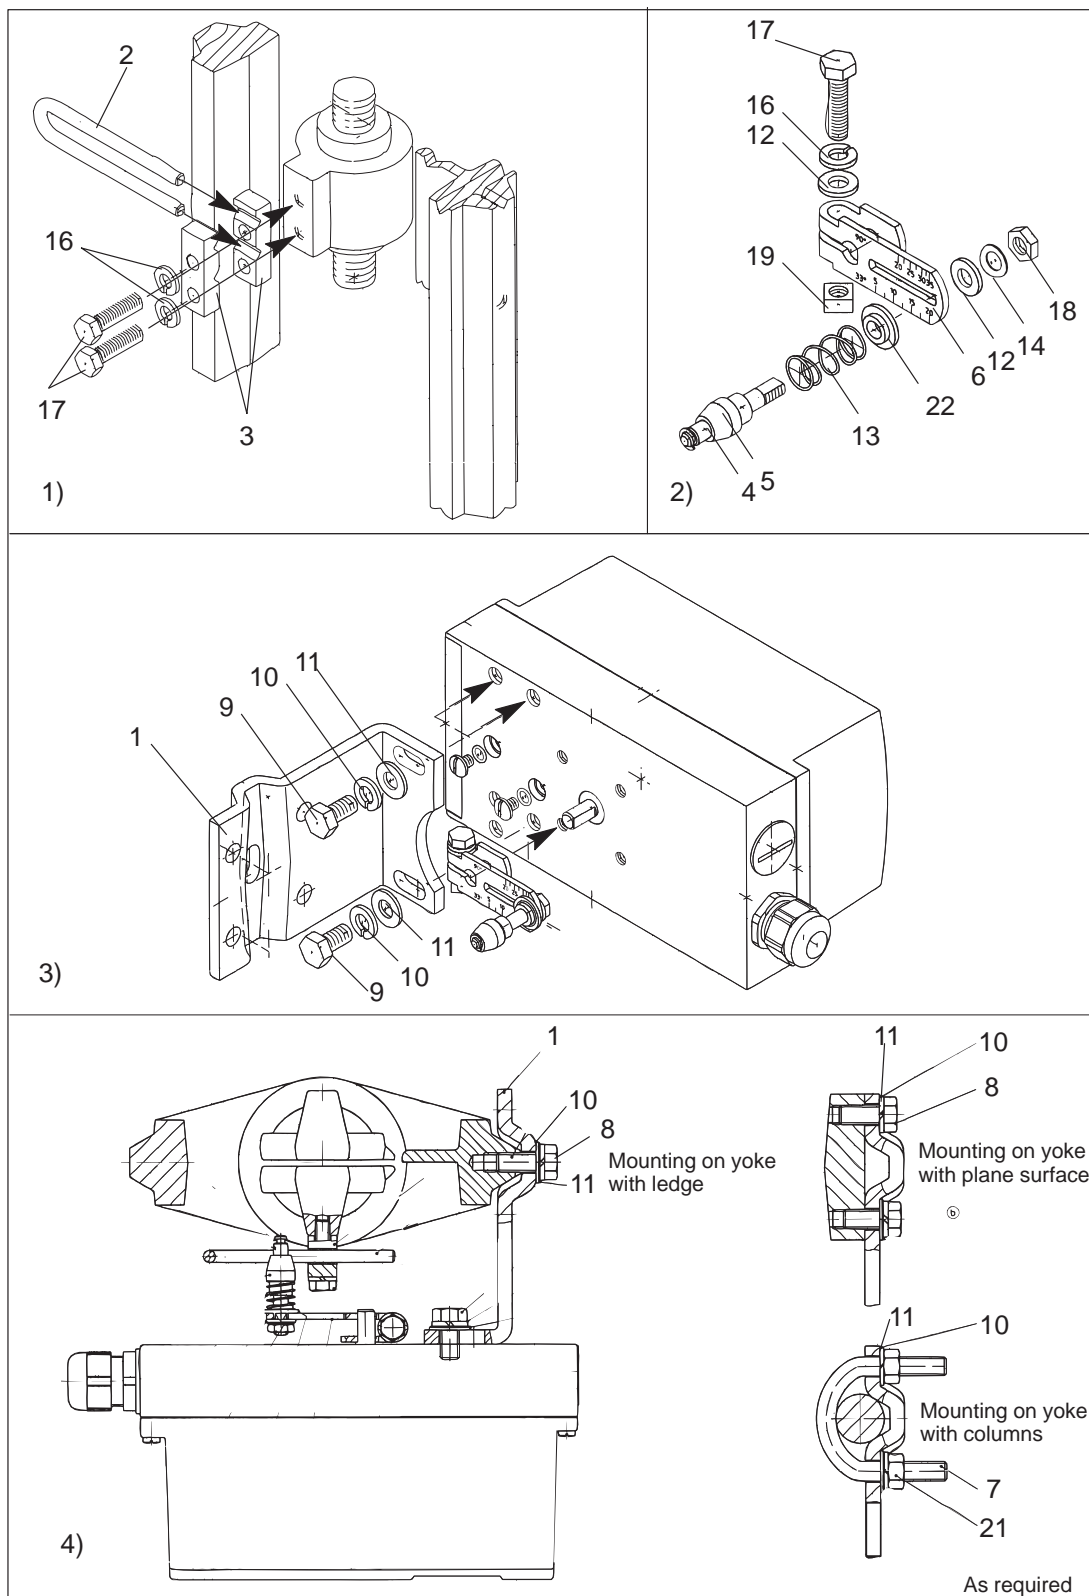

Figure 3-5 Assembly sequence (linear actuator)
The following are included in the *supply of the mounting kit* “Linear actuator IEC 534 (3 to 35 mm)” (see Figure 3-5 for item Nos.):
3.3.2 Assembly Sequence (see Figure 3-5)